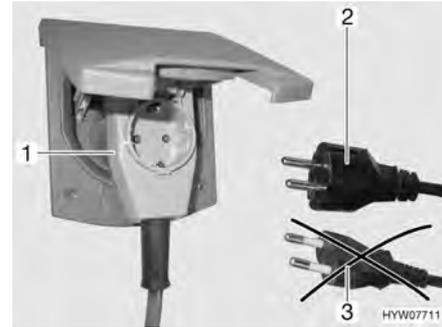

Fig. 103 Connecting an angled connector with socket
- ▶ When using a CEE 17 angled connector with rear socket (Fig. 103,1) only use a rubberised and sealed IP 44 socket with earth contact (Fig. 103,2). Do not use sockets without earth contact (Fig. 103,3).